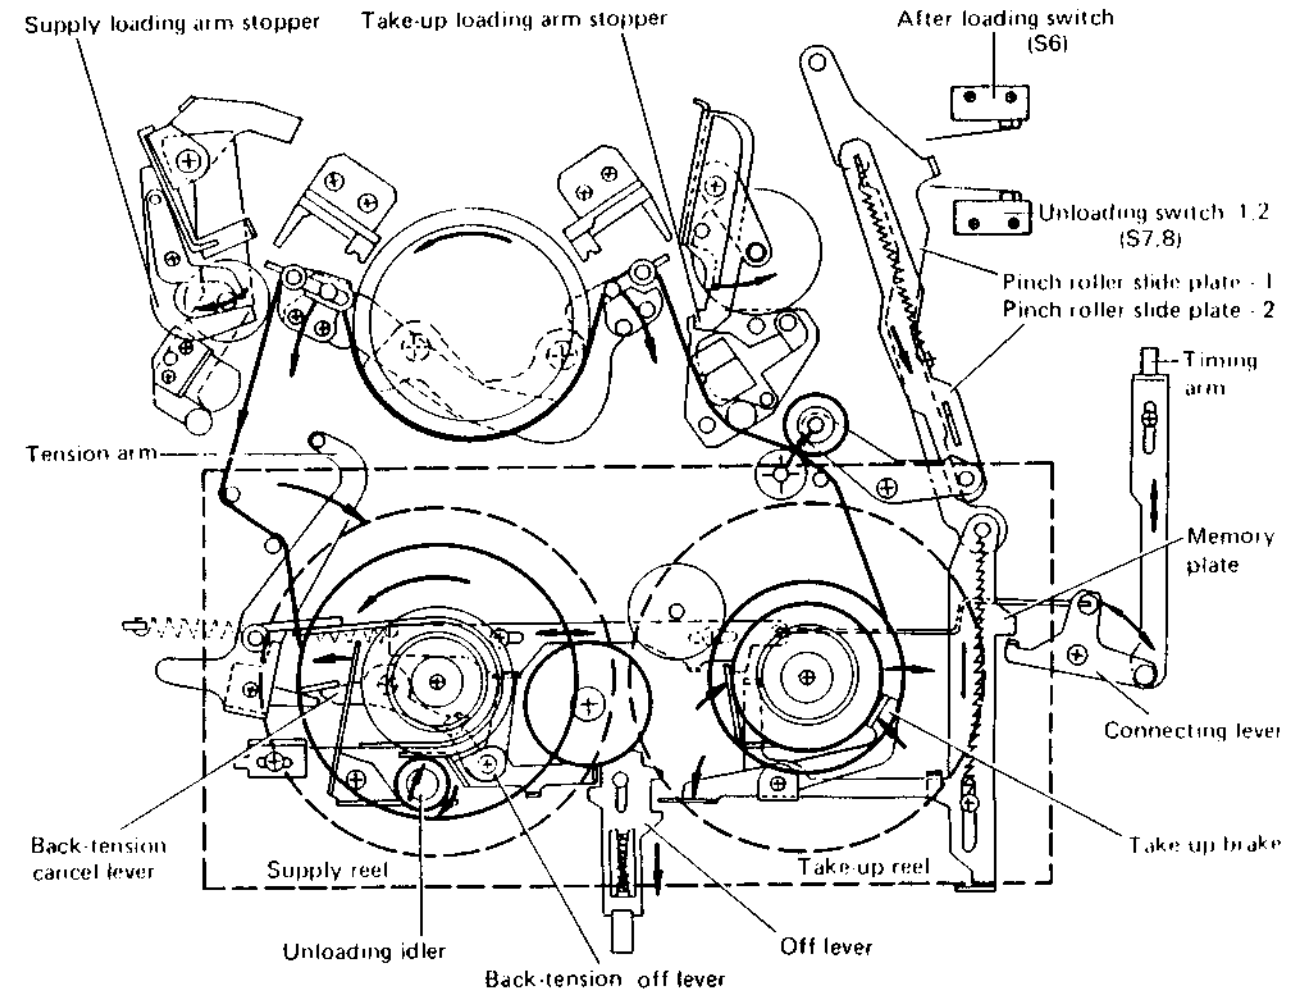

Fig. 2-15 Unloading mechanism (Top view)
timing gear rotates clockwise again, and the drive arm turns counterclockwise (f) to the original position. When the roller (A) reached to the notch (E) of the timing gear, the change gear is released from the drive gear by the counterclockwise rotation of the gear arm. At this time, the rotation of the timing gear is stopped. Refer to Fig. 2-15, Unloading mechanism (Top view). When pressing the STOP key from the Play mode, the play function mechanism is released. As a result, the unloading idler contacts with the supply reel disk, and the supply reel disk winds up the tape during unloading. At the same time, the take-up brake contacts the take-up reel disk by the movement of the off lever. On the other hand, the supply roller stopper, supply loading arm, take-up roller stopper and take-up loading arm are returned to original stop position, however, the roller (A) of the timing gear (bottom side) runs on the edge of